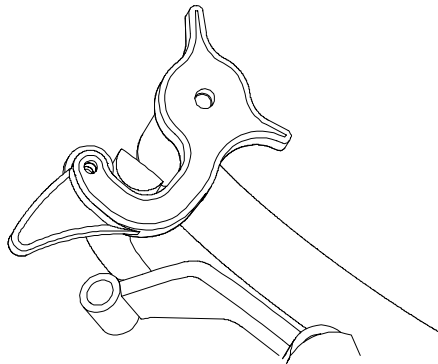

FIGURE 11
1. With rear of machine still on jack stands and engine running at full throttle, disengage the park brake and move the speed control lever to the midway position. Move the respective drive lever upward until it reaches the **neutral** position and engage neutral lock latches (See Figure 11). If the tire rotates in either direction, the length of the drive lever link will need to be adjusted.